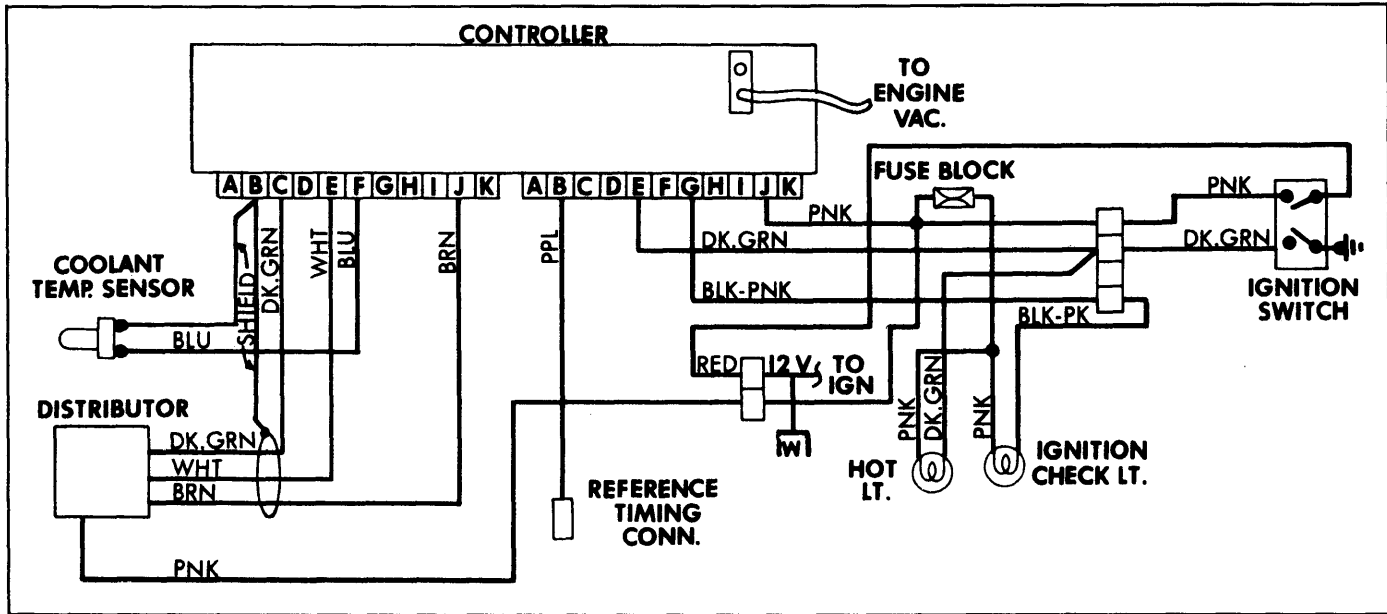

Fig. 2: 1978 Oldsmobile Toronado EST Ignition System Wiring Diagram
3) With distributor position correctly adjusted, connect a jumper wire between ground and reference timing connector. See Fig. 2. Connector is located below glove box, next to controller assembly.
5) Turn ignition off. Disconnect distributor wiring harness connector from controller assembly. Check resistance of each of the 3 terminals in the distributor half of the connector. See Fig. 2.
9) Connect a jumper wire to ground and to wire just removed from module. Connect distributor harness connector and remove 6-wire connector from controller assembly. See Fig. 2.
- 1) Ensure that reference timing connector is not connected or shorted to ground. See Fig. 2. With engine running and transmission in Park, check voltage at Pink wire (terminal J) of controller assembly connector. If reading is 11 volts or more, go to next step. If not, go to step 3).